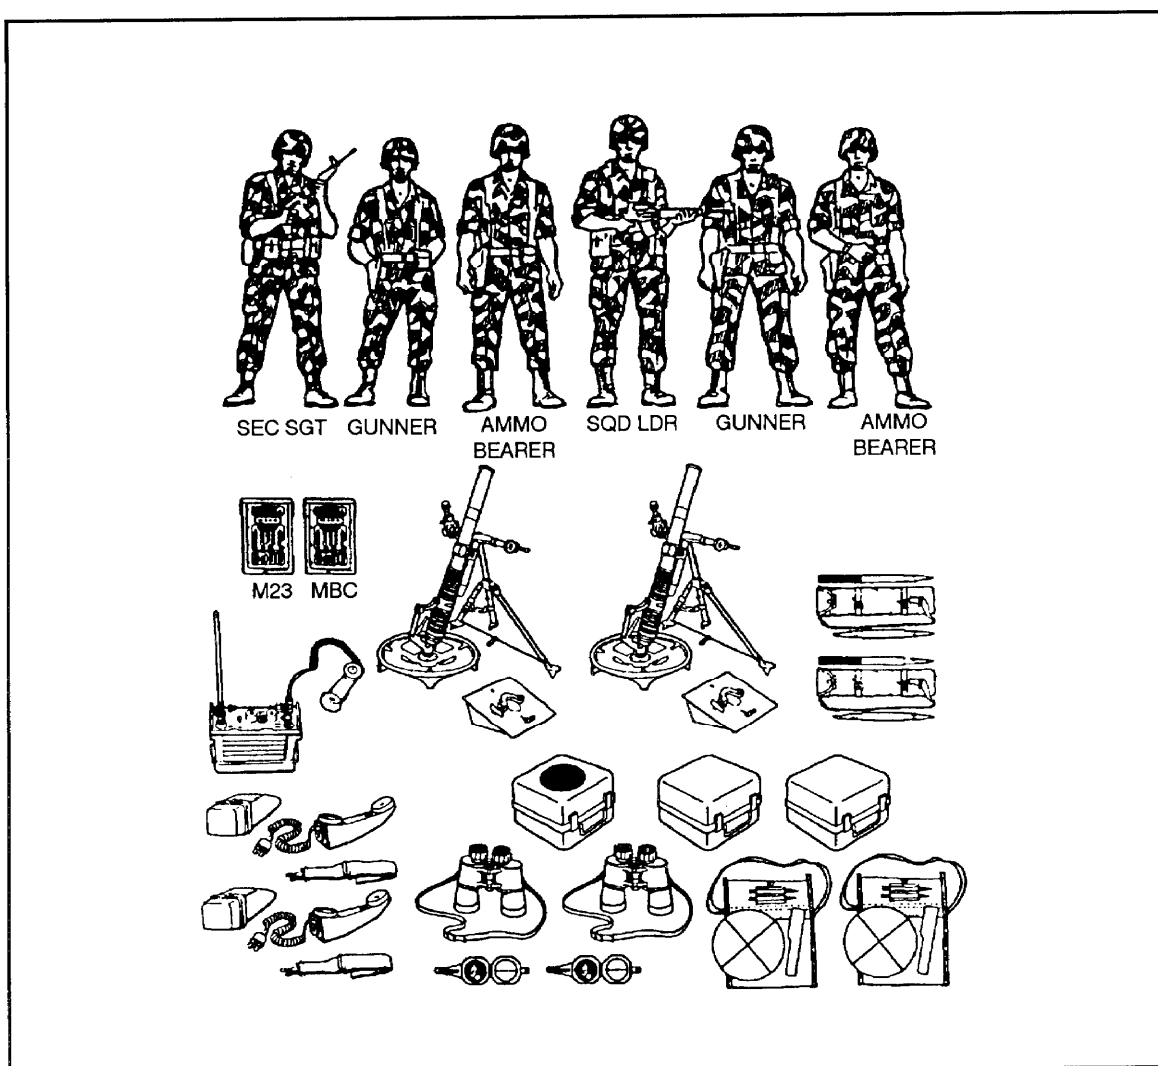

Figure 8-1. Equipment and organization.
a. Light mortar sections consist of two squads, each consisting of one mortar and its crew. In the airborne, air assault, and light infantry rifle companies, the senior squad leader is the section leader. He is directly responsible to the company commander. (The organization of these mortar sections is shown in Figure 8-1.) No FDC personnel are in the airborne, air assault, or light infantry mortar sections. The mortar section sergeant coordinates closely with the company FIST chief to increase the effect of the section's fire.